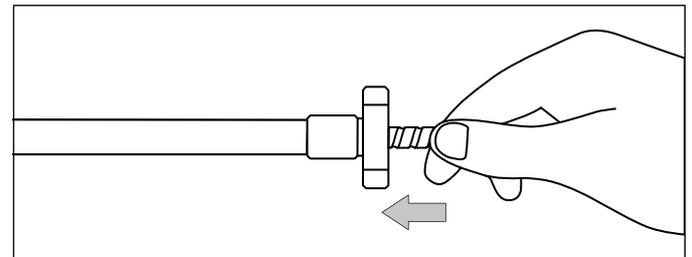

Fig. 21: Hold the flexible sensor rod close to the flange when inserting it
2. When inserting the flexible sensor rod, hold it close to the flange and insert it slowly into the support tube (Fig. 21). This allows air in the support tube to escape.
- When inserting the flexible sensor rod, hold it close to the flange and insert it slowly into the support tube (Fig. 21). This allows air in the support tube to escape.